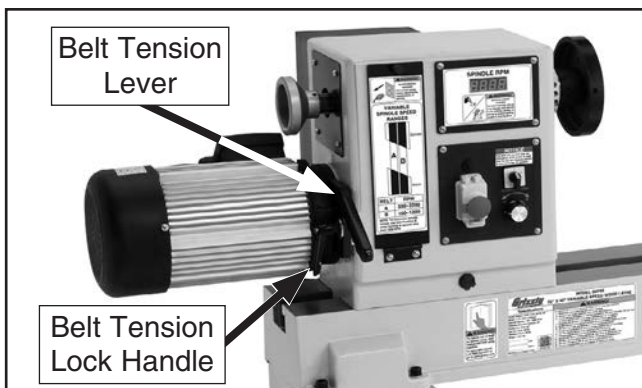

Figure 27. Motor tensioning handle and tension lock handle.
3. Loosen belt tension lock handle (see **Figure 27**).
4. Use belt tension lever (see **Figure 27**) to lift motor assembly all the way up, then re-tighten belt tension lock handle—this will hold motor in place while you change belt position.